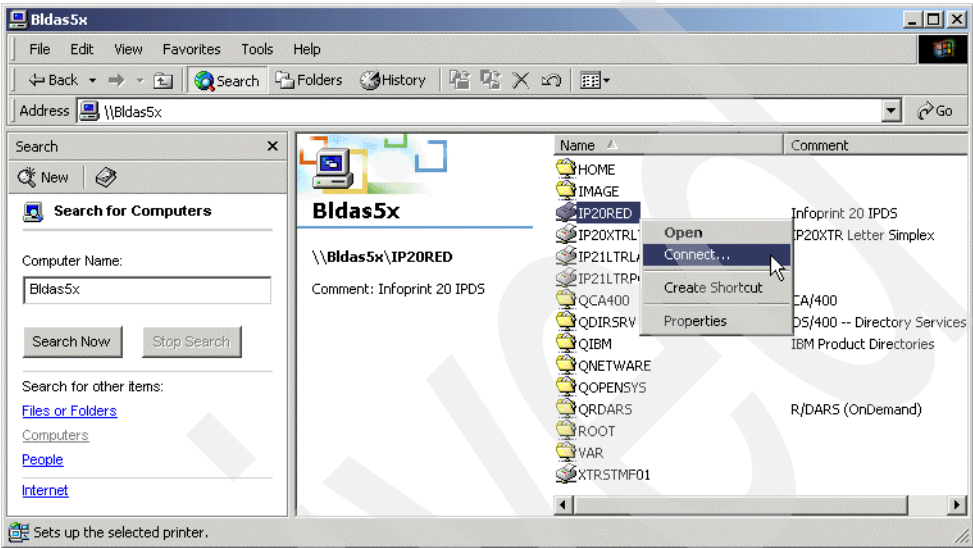

Figure 120. Components list
- The share printer we defined must be in the component list as shown in Figure 120. If not, check your share printer definition.